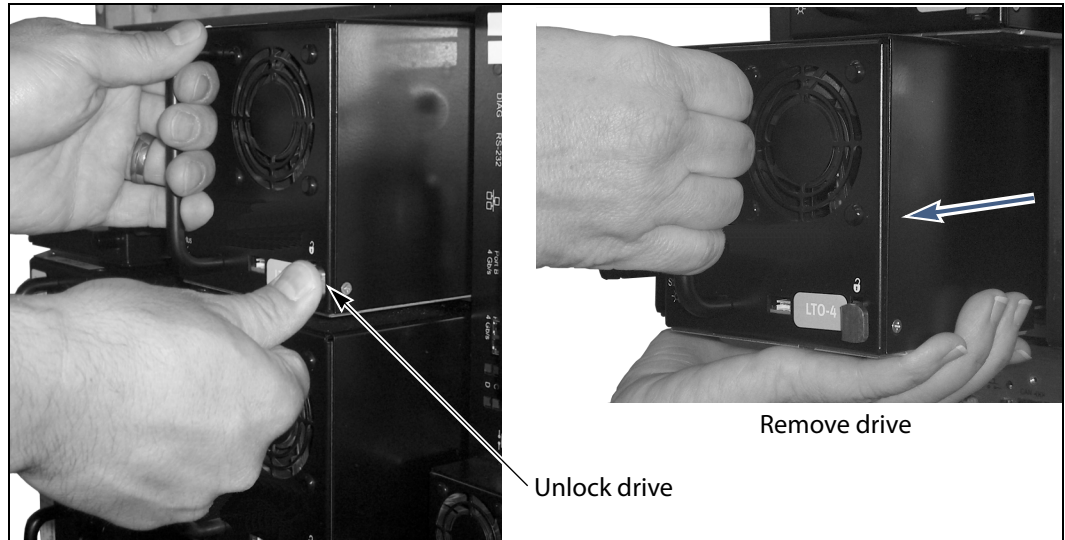

Figure 9 Releasing the drive lock and removing the drive.
Note: Depending on the type of drive, the drive lock may look different from the one shown in Figure 9.
5. While supporting the bottom of the drive sled, pull outward on the drive sled handle to remove the drive from the library (Figure 9).